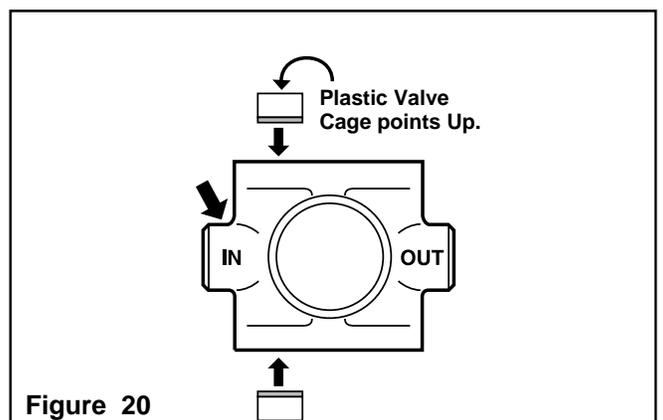

**Figure 19**
9. Place the smaller opening end of the Main Bearing Support Tool over the Crankshaft (See Figure 19).